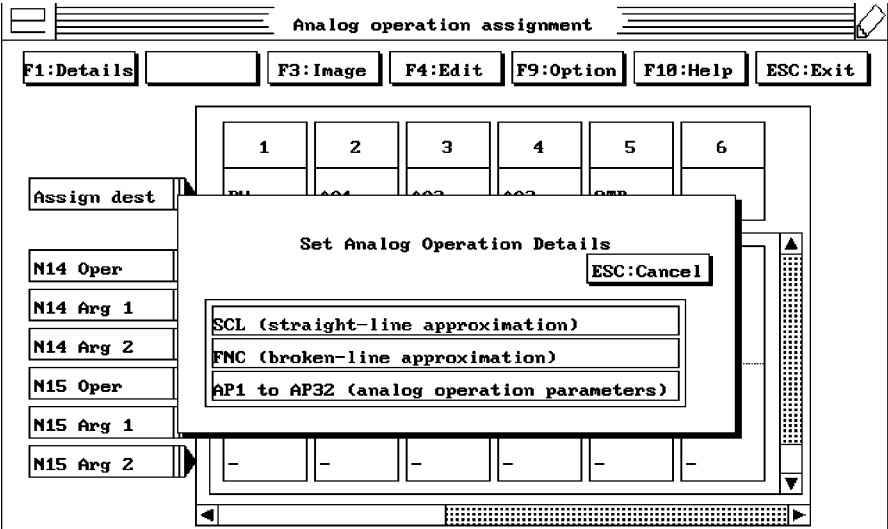

Figure 11
- 4. From the **Set Analog Operation Details** pop-up menu, select **AP1 to AP32 (Analog Operation Parameters)** in Figure 11.